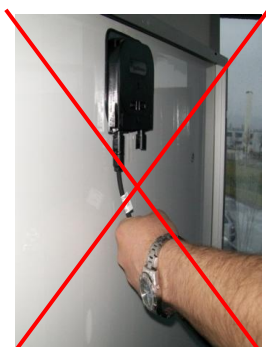

Fig. 4: Do not pull on the cable.
- **DO NOT** pull on the connection cable itself when unplugging it (see Fig. 4).